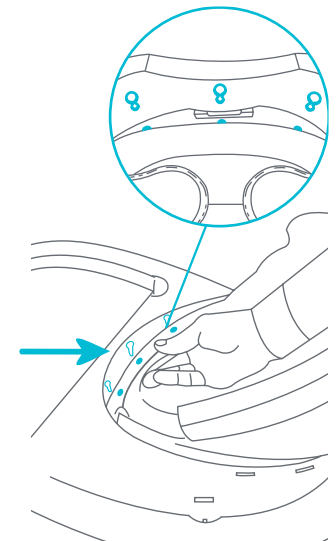

Fig. 2a
- 2 • **If assembly required:** Connect the seat fabric by inserting the plastic button pins into the upper, larger openings. Then push them firmly downwards until they **SNAP** into position (Fig. 2a).